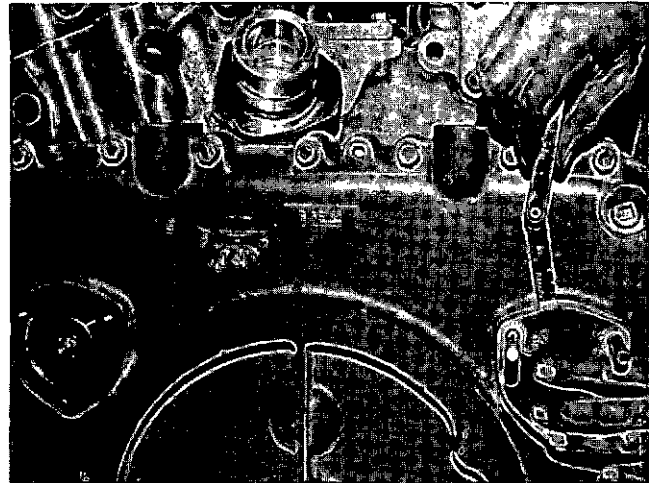

Fig. 14-1-51, V414151. Checking camshaft thrust plate clearance
- c. Measure clearance between thrust plate and gear case cover with feeler gauge. Fig. 14-1-51.